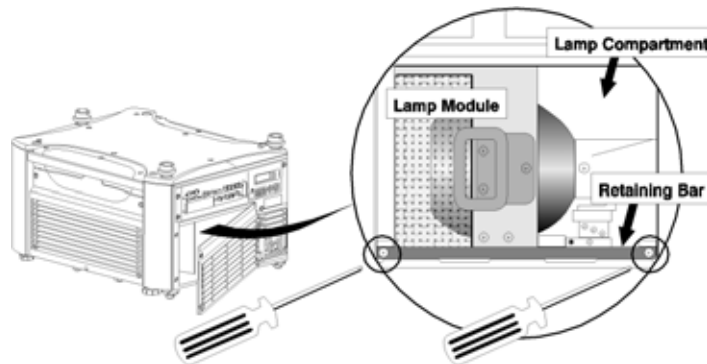

Figure 1 - Open Lamp Door and Remove Retaining Bar
3. Use a #2 Phillips screwdriver to loosen the ¼-turn lock screws (2) securing the lamp door.
4. Remove the two screws securing the retaining bar along the bottom edge of the lamp module (Figure 1 - Open Lamp Door and Remove Retaining Bar1).